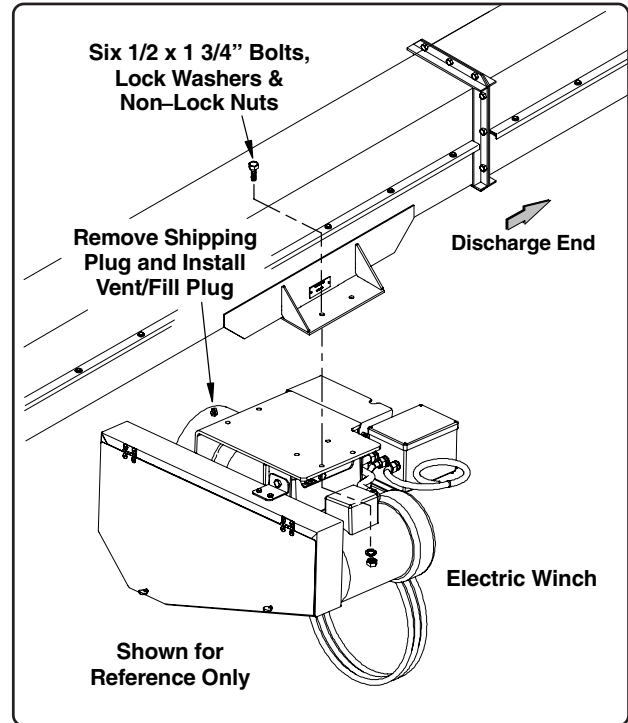

Fig. 36
IMPORTANT! Although the winch has been shipped with oil already installed, it is recommended to check oil level before operation. Before conveyor operation you must remove the plug from the top of the gearbox and install the vent/fill plug (See Fig. 36).
1. Position the winch below the winch mount plate and secure to mount using six (6) 1/2" x 1 3/4" bolts, lock washers and non-lock nuts (See Fig. 36).